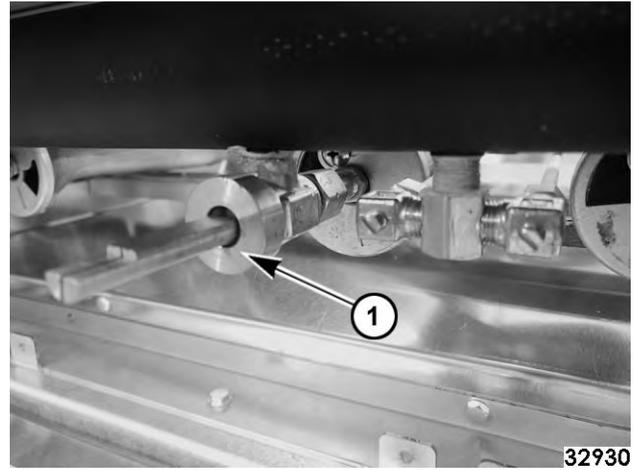

Fig. 80
4. Unscrew top burner control valve (1, Fig. 80) from gas manifold.